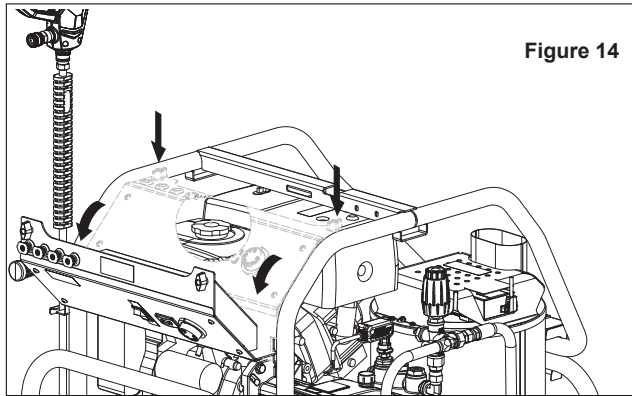

Figure 14
1. **REMOVE** both knobs screws at the top of control panel to rotate it 90° in order to get better maneuverability and avoid leaking of fuel over control panel (see figure 14).